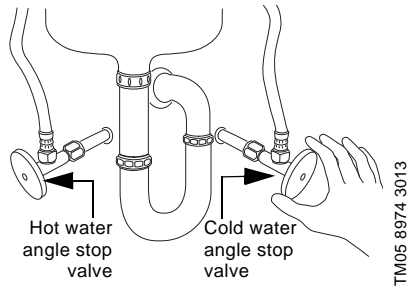

Fig. 4 Close hot and cold water angle stop valves under the sink before installing the bypass valve
1. Close both the hot and cold water angle stop valves below the sink; see fig. 4.